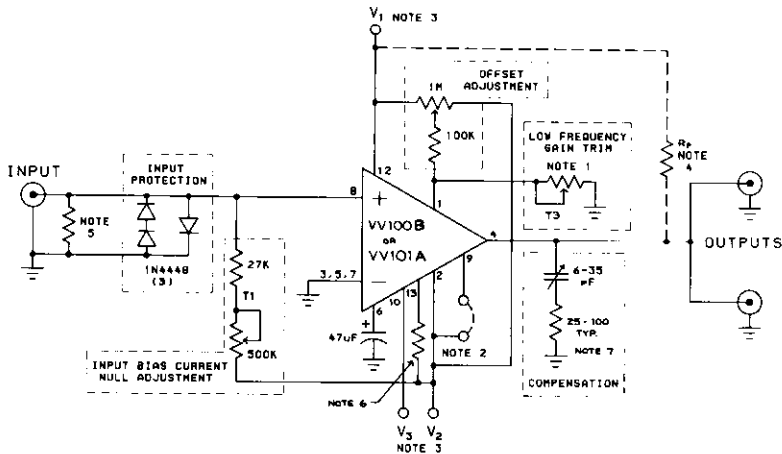

Figure 1
- See figure 1.
Figure 1 shows a typical application circuit for the VV100B and is the circuit on the LeCroy VV100BTB amplifier. Here input trim T1 is accomplished by the series combination of a 27 k Ω resistor and a 500 k Ω potentiometer. Trim T2 is set by the 1 M Ω potentiometer and series 100 k Ω fixed resistor. A fixed resistor to ground sets the low frequency gain trim (T3). High frequency compensation is set by the 51 Ω , 6-35 pF combination.
Proper termination and protection must be supplied to the input. In most cases, input to the amplifier will be via 50 Ω cable. In this case, a 50 Ω resistor from the input (pin 8) to ground should be employed. In addition, three 1N4448 or equivalent diodes to ground as shown in figure 1 will provide overload protection. The input dc level must be trimmed to zero by a trim resistor (T1) to a negative supply. Where the best dc stability is required, this supply should be regulated. Note that fluctuations in the input offset will appear at the output amplified 10-fold.